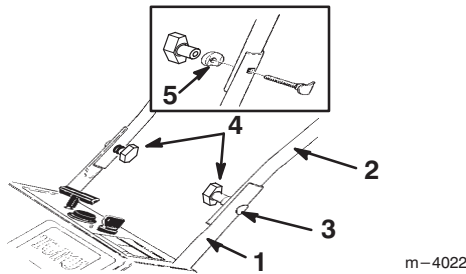

Figure 3
Note: Ensure that you properly align the oval head bolts and the curved washers (See inset in Fig. 3).
1. Position the ends of the upper handle on the inside of the lower handles and align the holes (Fig. 3).
2. Secure the upper handle to the lower handle using oval head bolts, curved washers, and knobs (Fig. 3).